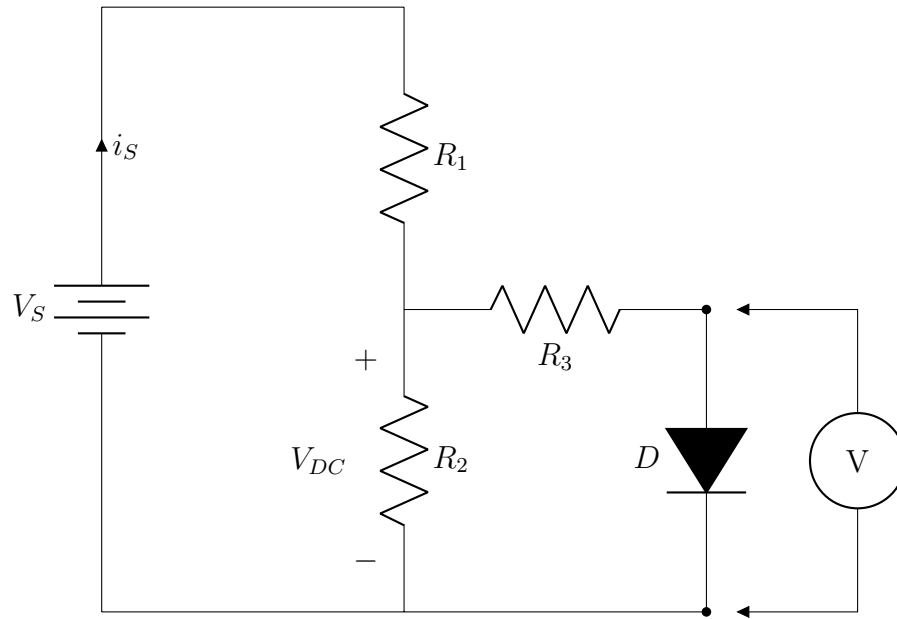

Figure 3: PN-Junction Diode Test Circuit with Voltmeter across Diode
5. To account for the accuracy of your voltage source in producing its values as set by the Power Supply Module, it is important to measure the voltage V_{PN} directly across the diode. Doing so will give you the actual voltage across the diode for each input voltage step from the Power Supply Module. This voltage, V_{PN} , will be plotted versus I_D to obtain the diode I-V curve later. Repeat steps 3 and 4 but record the voltage V_{PN} across the diode and plot V_{DC} vs. V_{PN} instead. Your circuit should look like Figure 3 below. Be sure to use the same start and stop values as well as step size as before.